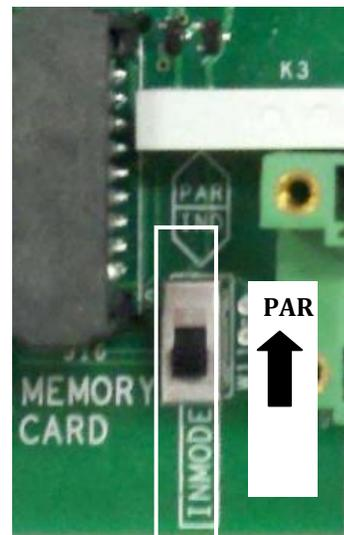

Figure 2.14a - Parallel Mode switch configuration
- Place the INMODE switch (shown in Figure 2.14a) in the “PAR” position to configure the inverter controls in parallel mode.